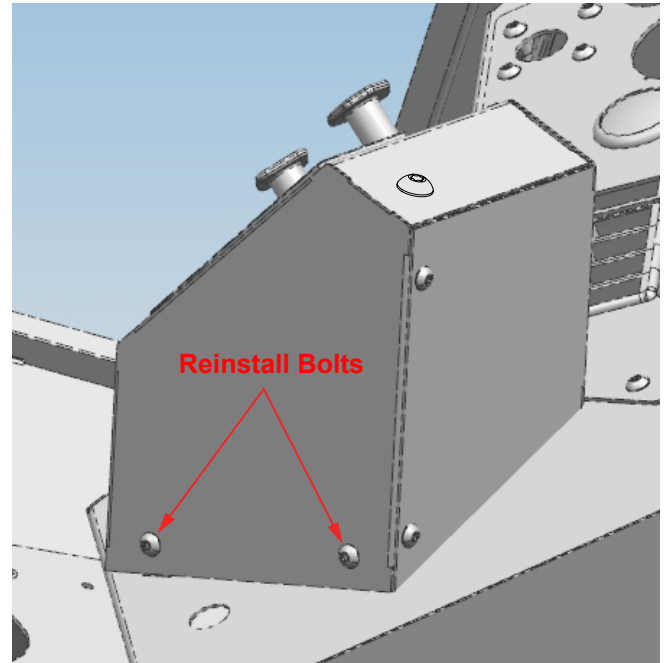

Figure 6
10. Reinstall (2) bolts that were set aside for reassembly in step 3 and tighten to 75 in-lb of torque (see *Figure 6*).